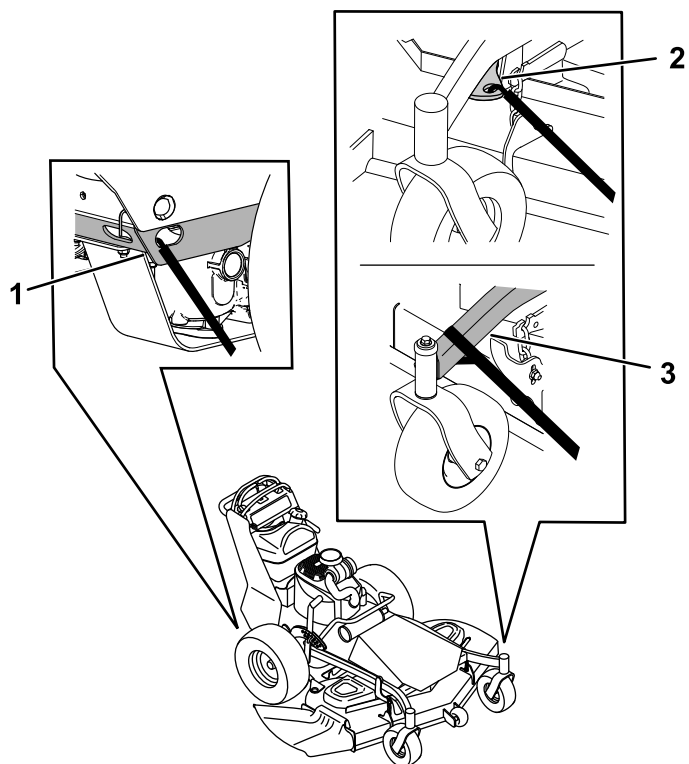

Figure 24
6. Tie down the machine near the front caster wheels and the rear bumper with straps, chains, cable, or ropes (Figure 24). Refer to local regulations for tie-down requirements.